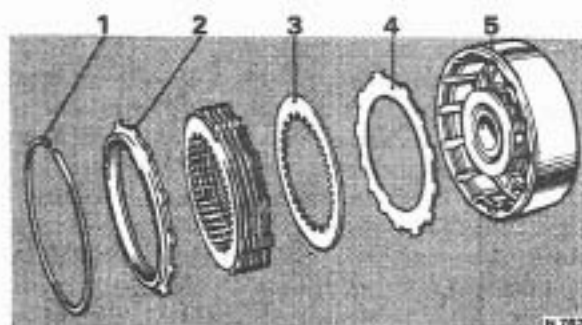

FIG. T249 DIRECT CLUTCH — EXPLODED
5. Remove the five composition plates and the five steel plates (see exploded view of direct clutch in Figure T249).